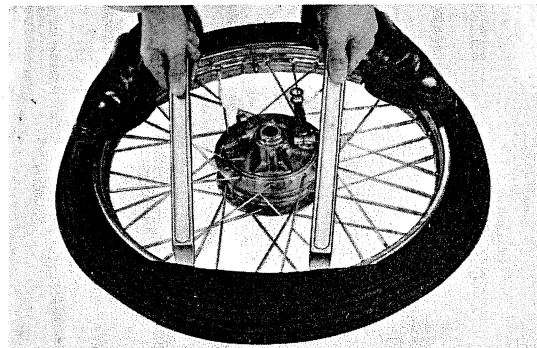

Fig. 105 Tire assembly
- 1) Inflate the tube with small amount of air and install the tire on the rim by forcing the bead of the tire on the inside of the rim (Fig. 105)